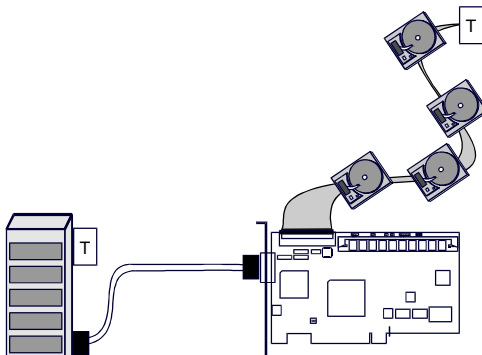

Figure 2-8. Connecting Disk Drives to the AcceleRAID 150
7. Connect the SCSI cables from the disk drives to a SCSI connector on the AcceleRAID 150 controller board, as shown in Figure 2-8. (The controller board is already connected to the system board.)